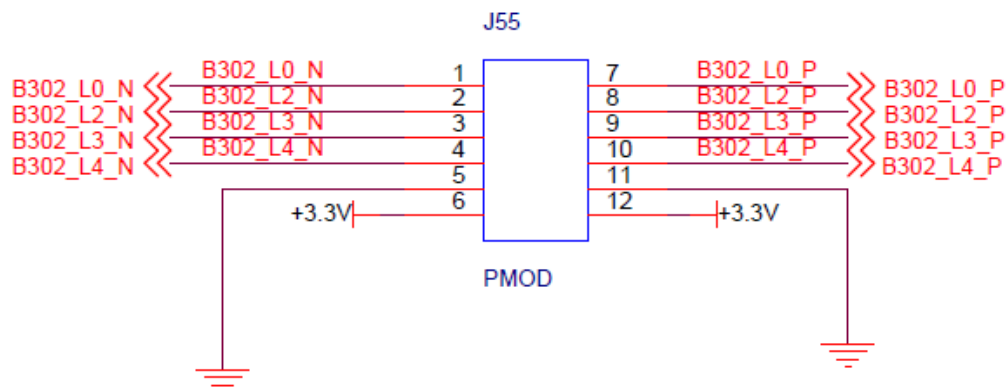

Figure 25: Schematic Diagram of Expansion Port J55
The circuit of the expansion port (55) is shown in Figure 25.